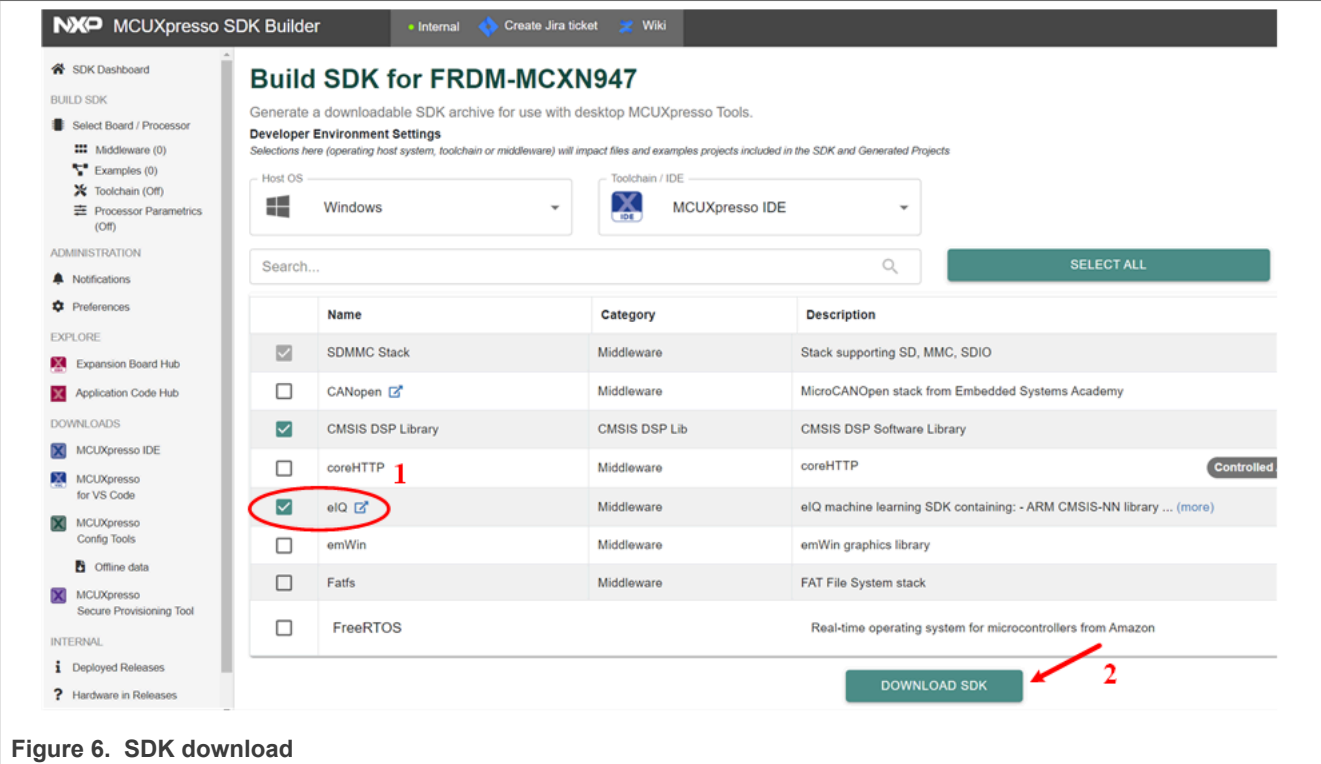

Figure 6. SDK download
4. Select eIQ middleware, click **DOWNLOAD SDK** as shown in Figure 6.